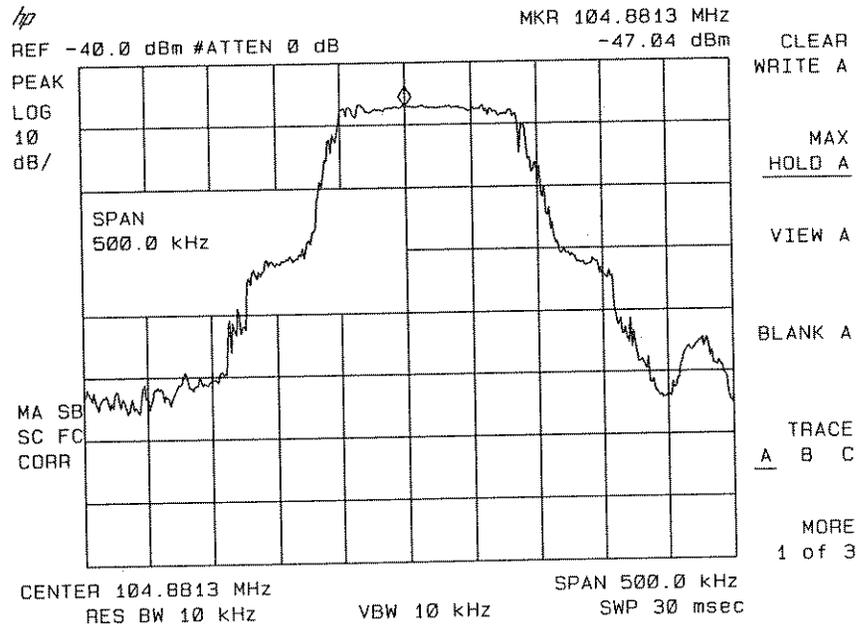

Figure 6-10. Viewing an Unstable Signal Using Max Hold A
5. To measure the excursion of the signal, press **TRACE**, **MAX HOLD A**. As the signal varies, maximum hold maintains the maximum responses of the input signal, as shown in Figure 6-10.